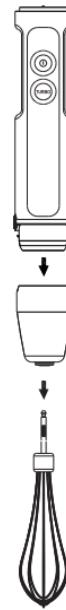

Abb. 3
- Insert the whisk attachment (7) into the whisk gear (6).
- Insert the whisk gear (6) into the motor unit, make sure that the gear (6) and the whisk (7) are fixed properly (fig. 3).
- Immerse the whisk attachment (7) into a suitable bowl with food. You can put the foodstuffs into the cup (11).
- To switch the unit on, press and hold down the button (4) «».
- When you press and hold the button (4) «» you can control the attachment rotation speed by turning the control knob (5).
- For operation at the maximal rotation speed, press and hold down the button (3) «TURBO».
- After you finish using the unit, disconnect the power plug from the mains socket, disconnect the whisk gear (6) from the motor unit.
- Remove the whisk attachment (7) from the gear (6).